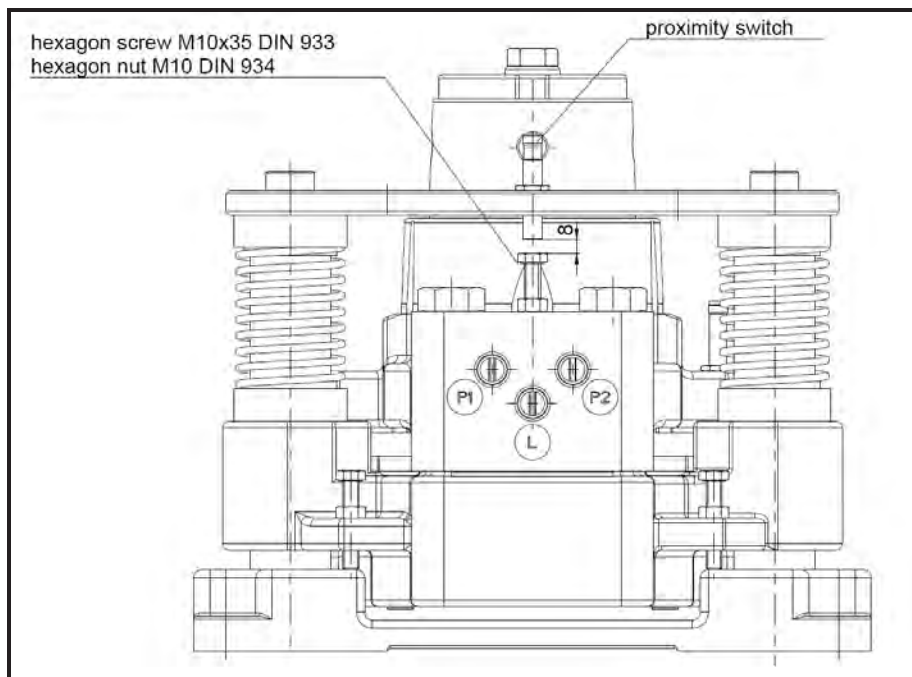

Fig. 13.5
- Screw the hexagon screw M10x35 DIN 933 with the hexagon nut M10 DIN 934 into the brake housing according to Fig. 13.5